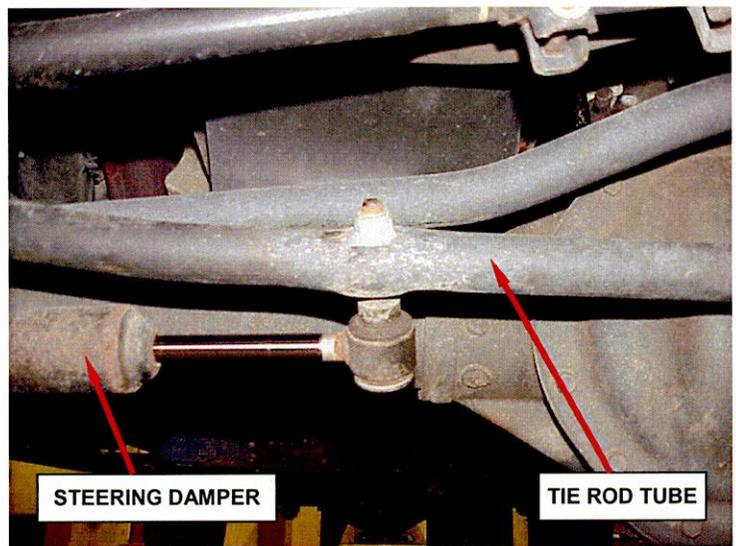

Figure 1 – Steering Linkage
- If the steering damper mounts to the tie rod tube as shown in Figure 1, the steering linkage does not require replacement. Return the vehicle to the customer.